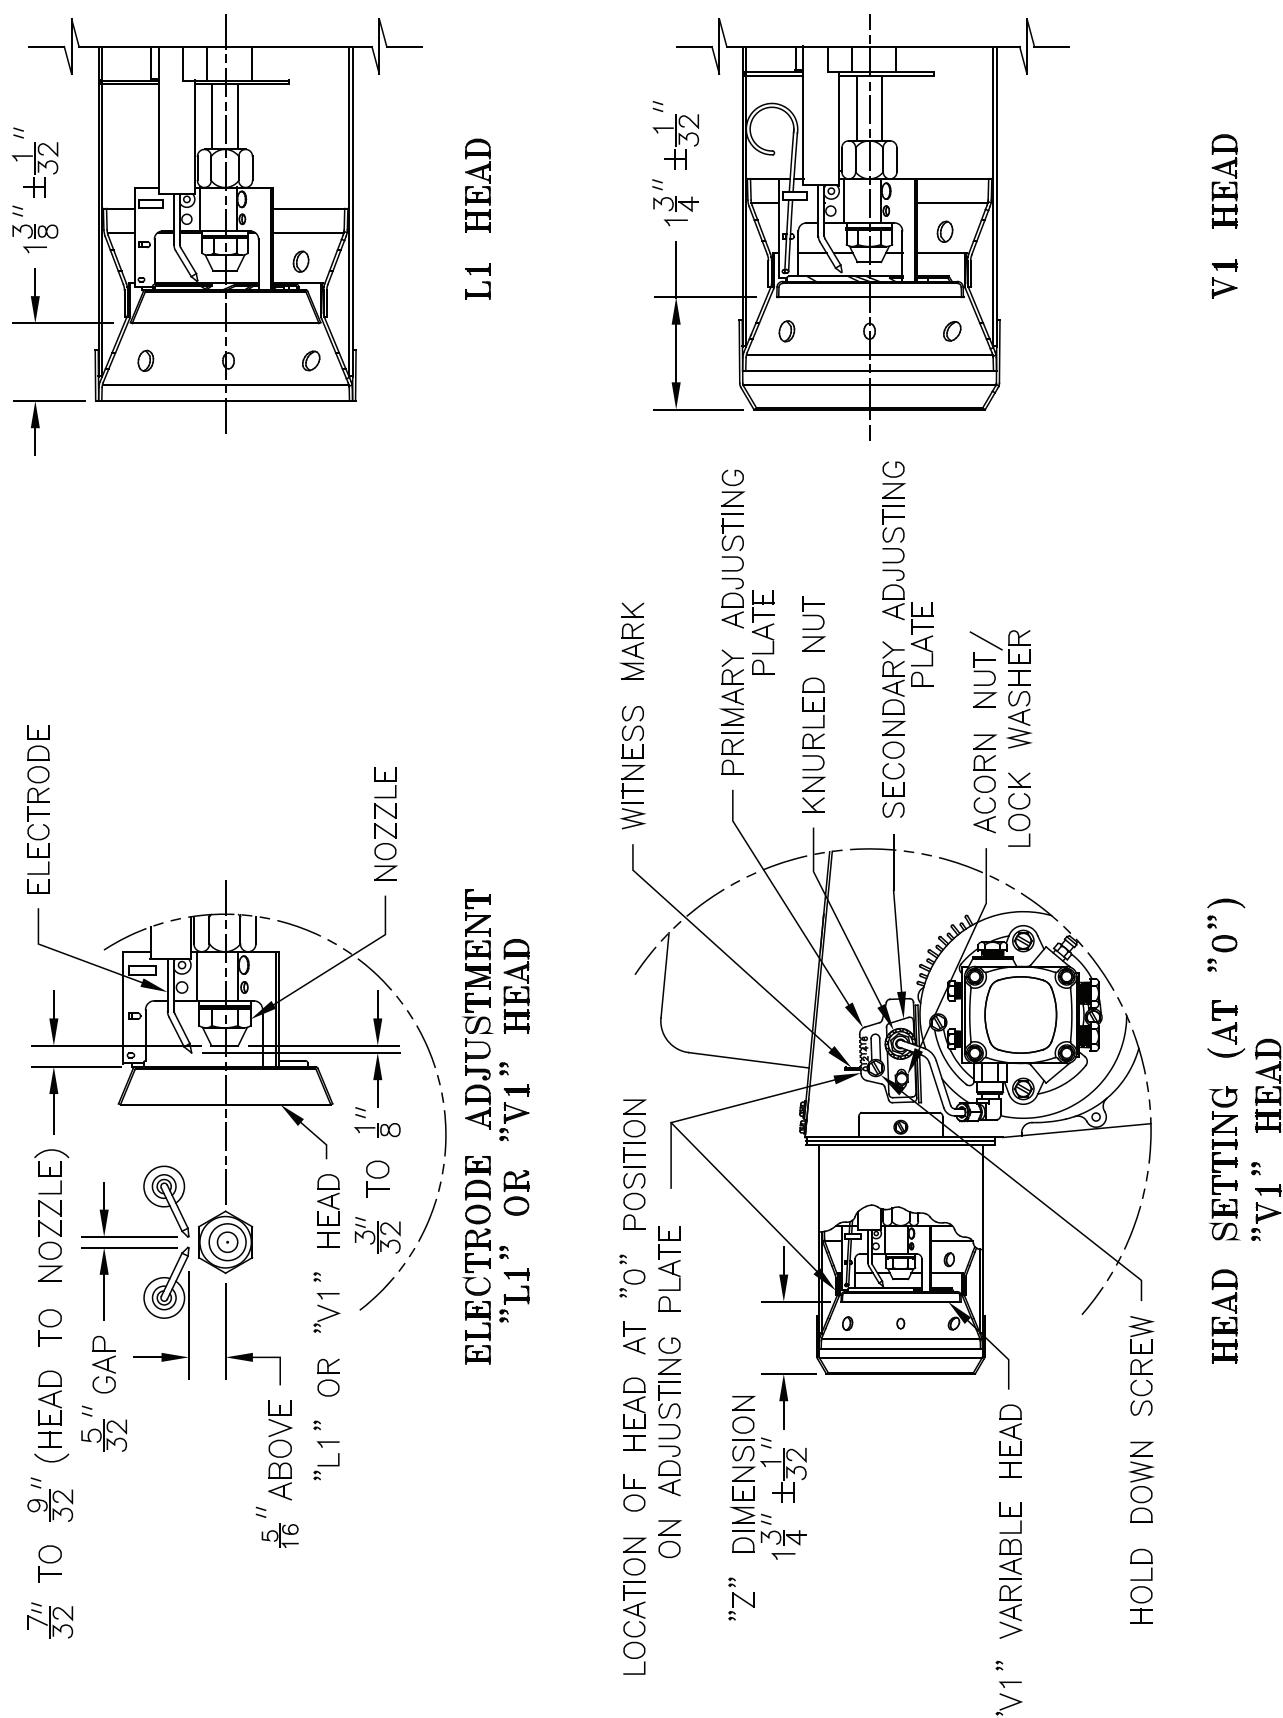

Figure 28: "L1" and "V1" Head Electrode Positioning and Gun Setting (Beckett AFG)
- b. Verify nozzle size, head size, gun setting, and positioning of electrodes. This information is shown in Figure 28, and Beckett AFG Burner Specifications, Table 9A. Replace Gun Assembly.
- c. Inspect Beckett head setting on left side of burner housing by insuring the blue line MD(V1) or the line on the label MB(L1) are aligned, readjust if necessary. Refer to Figure 28 and Table 9A at the rear of this manual.
- b. EMP182E and EMP224E: Beckett MD(V1) (variable) Head burners have the ability to control air by moving the head. It might be necessary to move the head forward or back one position at a time to optimize the smoke and CO₂ readings. See Figure 28.